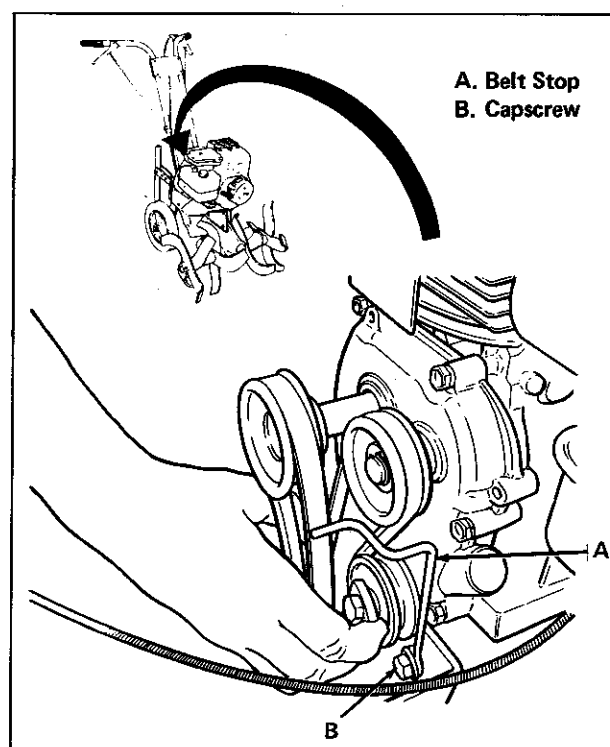

Figure 15. Belt Stops
2. Measure gap between belt stop (item A, figure 15) and both forward and reverse belts. The smallest gap should be 1/8 inch (3 mm). If not, loosen capscrew (item B), adjust belt stop and then tighten capscrew securely.